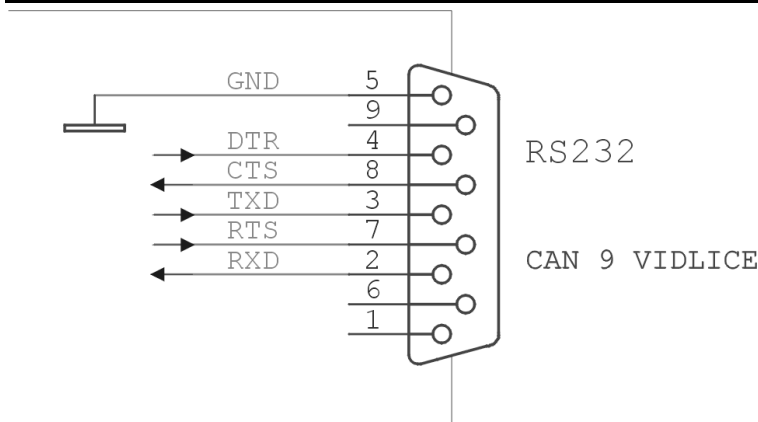

Fig. 1 – connection of RS232
RS232 signal distribution.....	DTE, cf. Fig. 1
- D-SUB 9 F (Cannon 9, socket) with DCE signal distribution for direct connection to a PC (as the counter-connector Fig. 1)
The GNOME module is equipped with two connectors. The serial line is connected via an integrated cable with a D-SUB 9 connector. (The variant with a standard RS232 (D-SUB 9 M) connector is connected to a PC via a crossed cable.) The connector layout is shown in Fig. 1. The Ethernet interface is connected to the front RJ45 connector. It goes via a standard (uncrossed) cable to a HUB or Switch.